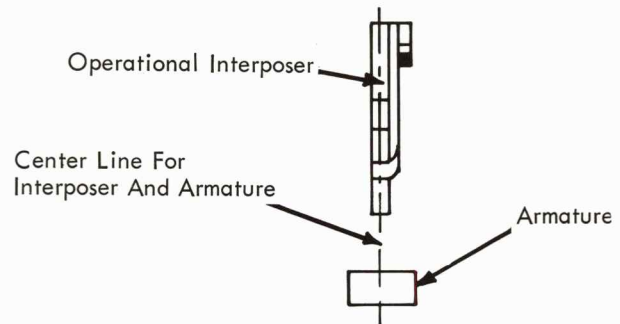

FIGURE 128.3 Left to Right
- a. Left to Right - so that the armatures are directly beneath their corresponding interposers (Fig. 128.3).